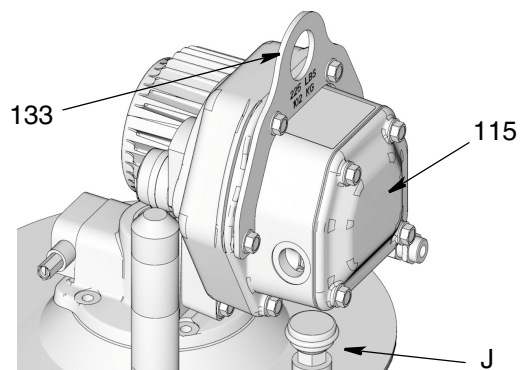

FIG. 9
NOTE: When the pump is correctly installed, the breather (J) will be below the control box (115) as shown in FIG. 9.